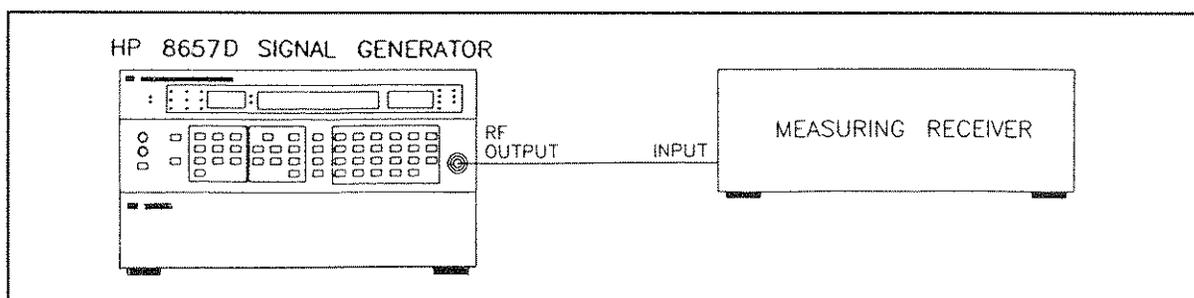

Figure 4-7. Modulation Test Setup
1. Connect the RF OUTPUT of the HP 8657D to the input of the measuring receiver as shown in Figure 4-7.